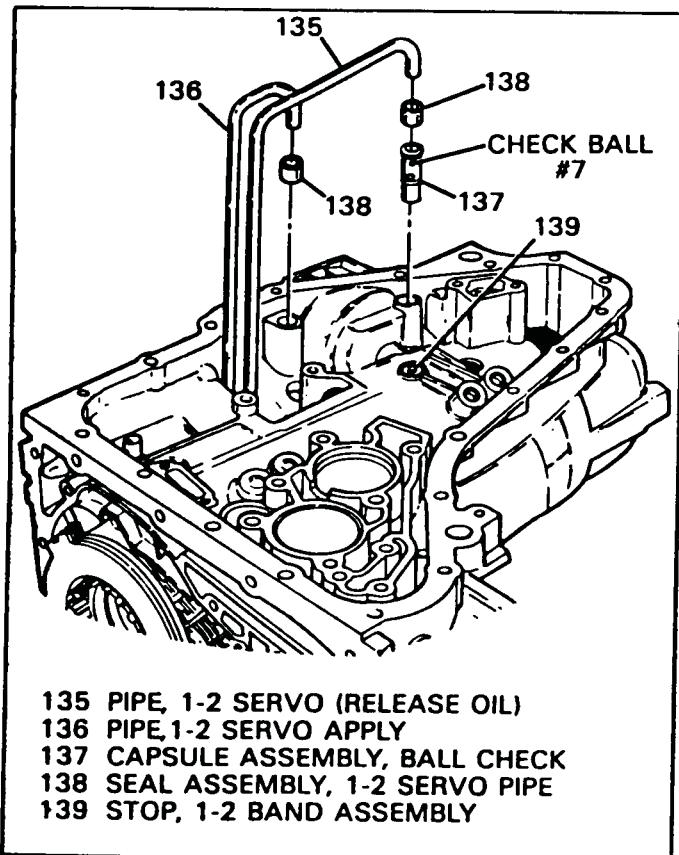

Figure 63
5. Insure that you position slot in the capsule so that it opens into the servo bore. (See Figure 63).